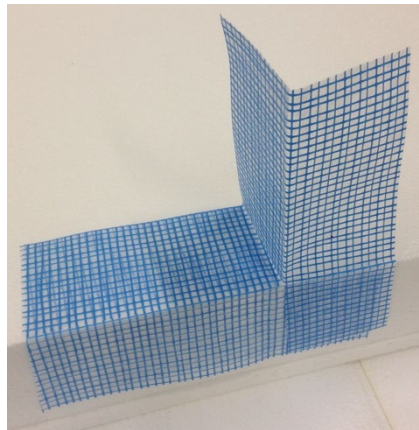

Fig. 5
- 5a. As an alternative, preformed Dryvit AquaFlash Corners can be applied at each corner of the opening to reduce the number of field cuts required. The AquaFlash Corners are installed in the same manner as the AquaFlash Mesh. – Figure 5